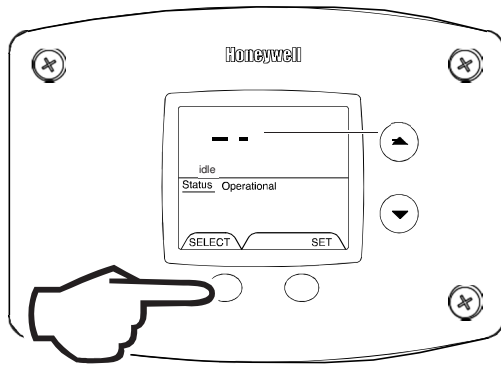

Fig. 39
8. Error Code History (Displays if there are present error codes or up to 10 previous error codes). Water Heater Display will show -- if there are no error codes (Fig. 39).